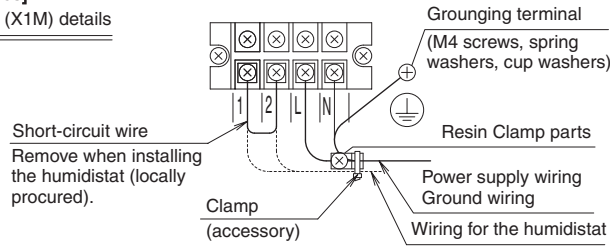

Fig. 17-1
- Pass the power supply wiring and the ground wiring through the wiring through-hole into the electrical parts box and secure with the included clamping material after connecting the wires to terminal blocks. (Refer to Fig. 17-1, 17-2)
- Secure with cramping material together with the power wire. **(Refer to Fig. 17-1)**